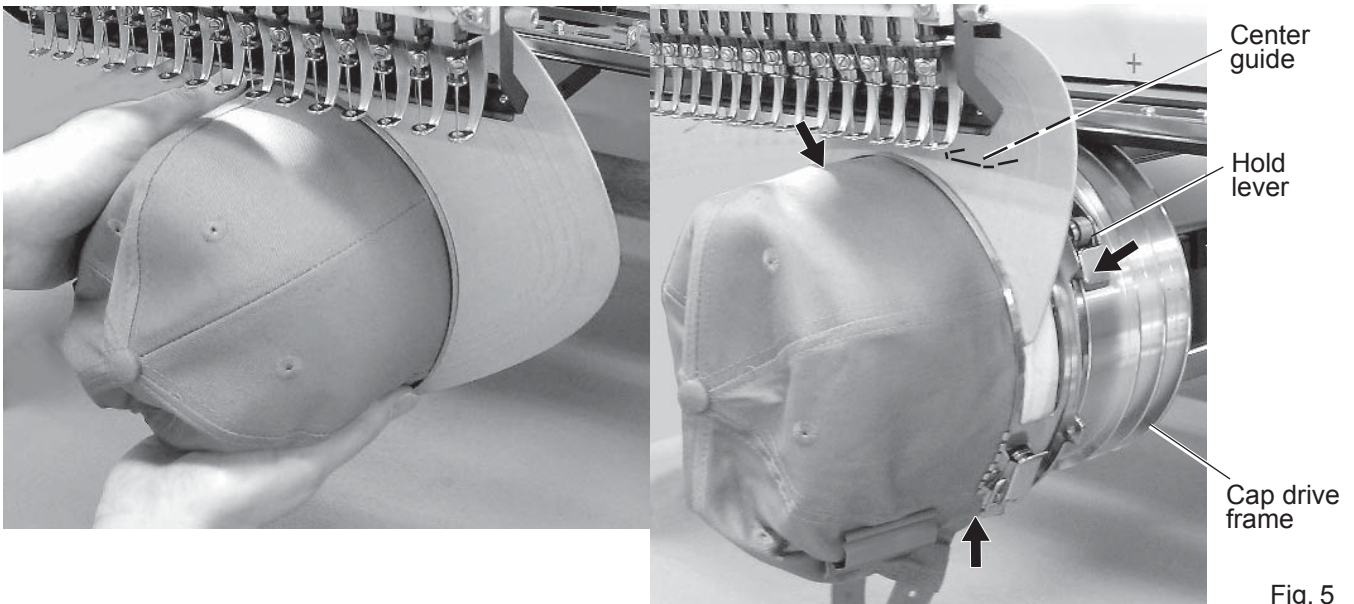

Fig. 5
8. As shown in Fig. 5, install the cap frame on cap in the drive frame.
Rotate the cap frame as show in the Fig 5 so that the brim of the cap cannot hit the machine. Then, push the holder lever in the 3 places shown in the arrow in Fig. 5, and install the cap frame in the cap drive frame so that so that the center guide of the drive frame fits the concave area of the cap frame.